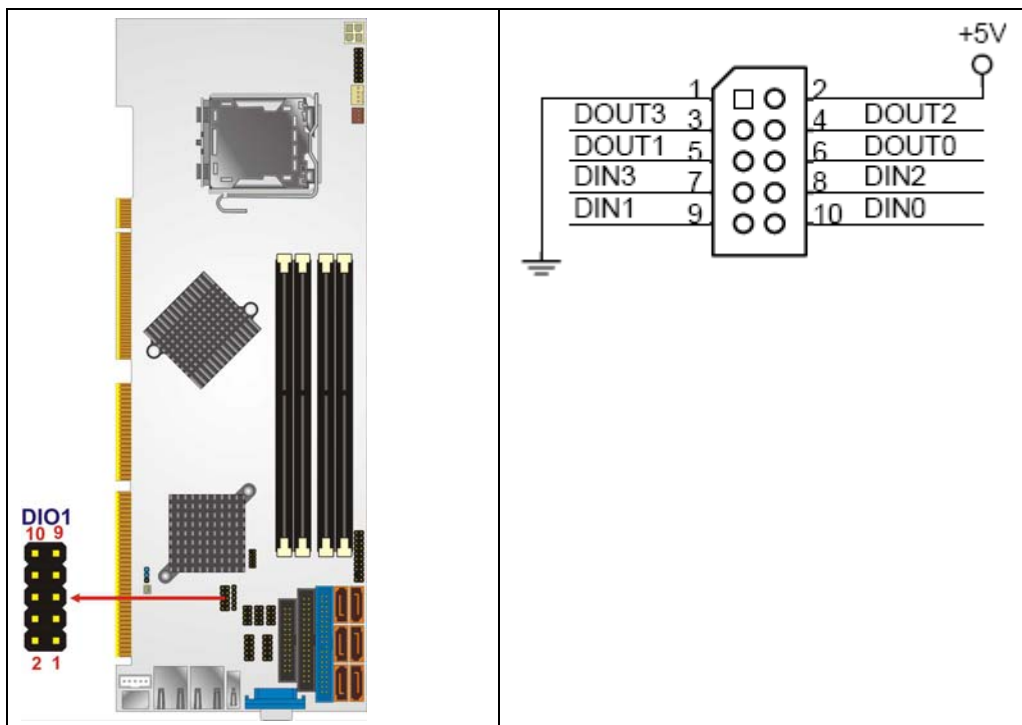

Figure 4-4: DIO Connector Location
- CN Location:** See **Figure 4-4**